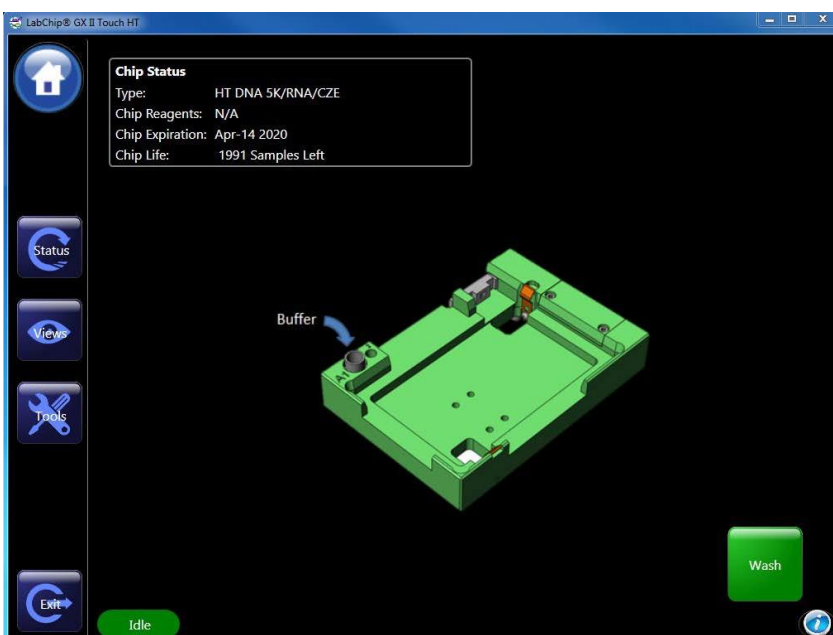

Figure 17. Wash Screen
- 6 Touch the **Wash** button on the Home screen. The Wash screen (Figure 17) opens.